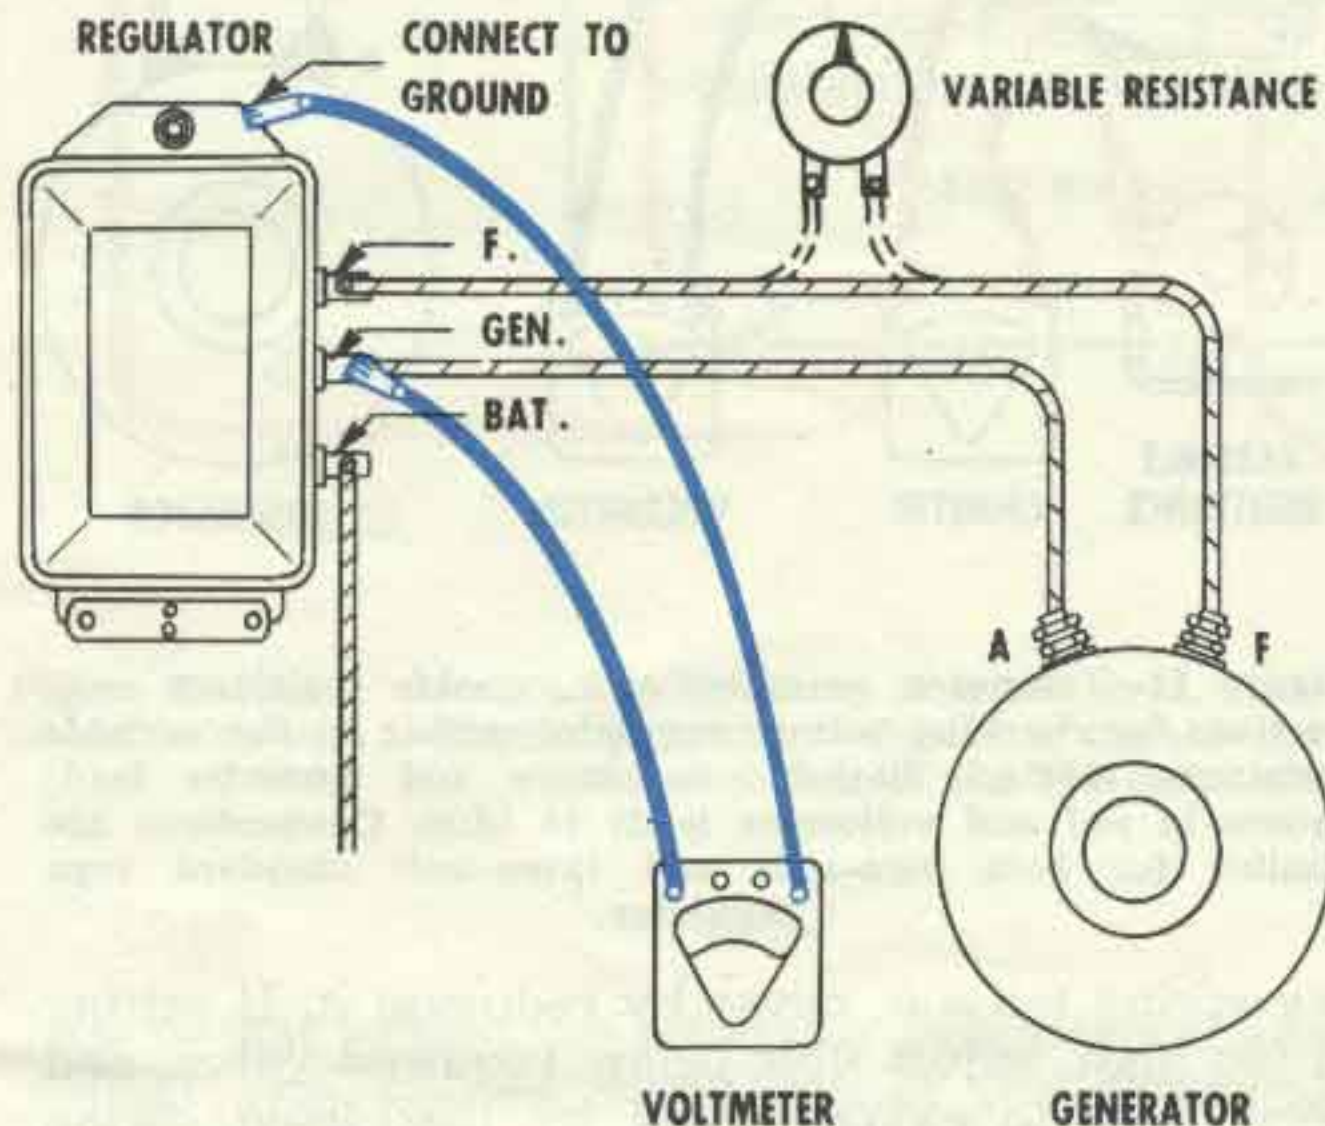
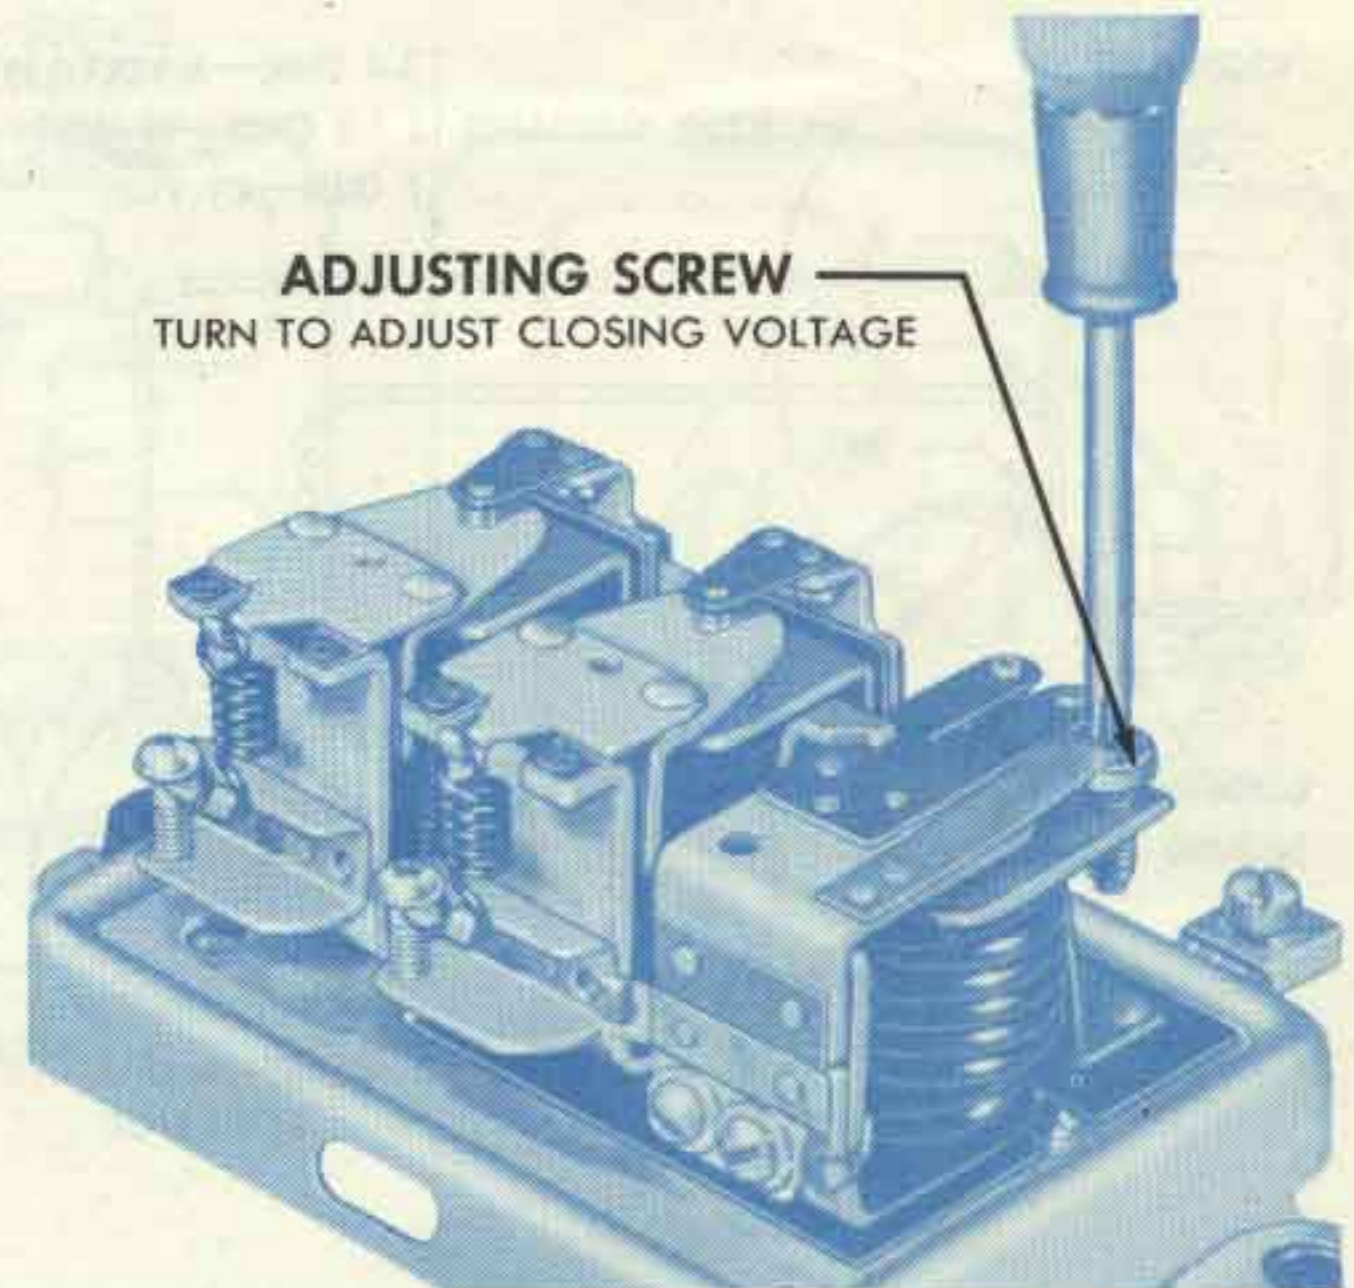

Figure 8—Voltmeter connections to check cutout relay closing voltage. Connections are similar for both two-unit and three-unit standard type regulators.
Figure 9—Adjustment of cutout relay closing voltage.
**CLOSING VOLTAGE**—To check the closing voltage of the cutout relay, connect the regulator to the proper generator and battery, connect a voltmeter between the regulator "GEN" terminal and regulator base, as shown in Figure 8. Slowly increase the generator speed and note relay closing voltage. Decrease generator speed and make sure that cutout relay contact points open. An alternate method is to use a variable resistor connected in the field circuit as shown in Figure 8. (15 ohm-25 watt for 6-volt, 25 ohm-25 watt for 12- and 24-volt). With generator operating at medium speed and resistance all in, slowly decrease the resistance until the cutout relay points close and note the closing voltage. Adjust closing voltage by turning adjusting screw (Fig. 9). Turn screw clockwise to increase spring tension and closing voltage, and turn screw counterclockwise to decrease closing voltage.